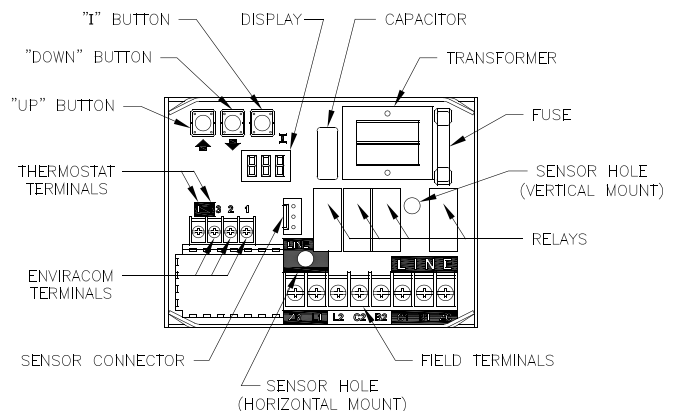

Figure 30: Intelligent Oil Boiler Control
- b. The boiler's sequence of operation is shown as Status Codes on Boiler Control display. See Table 7 and Figure 30.
- d. If the thermostat is not satisfied and the Operating Setpoint (SP) is reached the system circulator will continue to operate and the burner will stop. When the boiler water temperature drops below the setpoint less the differential setting the burner will restart.
- f. When an indirect water heater aquastat call for heat is wired to the "ZR" terminal the Boiler Control starts a domestic hot water circulator connected to the "ZC" terminal and when the boiler temperature is less than Operating Setpoint (SP), the boiler control energizes the oil primary to turn on the burner without circulator pre-purge delay.
- g. On burner start, if the CAD cell does not see flame within approximately 15 seconds, primary control will shut down the burner and enter into a lockout mode. A lockout is reset by pressing the reset button located on the primary control. If the flame is lost while the burner is firing, the primary control shuts down the burner, enters a 60 second recycle delay, and repeats the ignition sequence. If after three (3) trials for ignition,